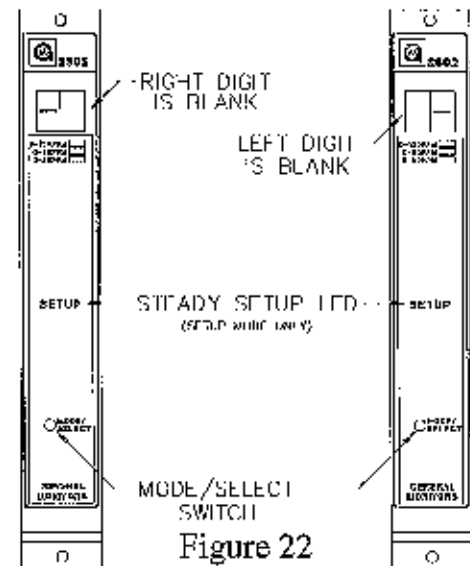

Figure 22
- **This option applies to the Setup Mode only:** If the password option is enabled, the right digit of the display will be blank and a bar (-) will appear in the left digit on the display (figure 22). Press the Mode/Select switch until the correct number is displayed, then wait about five seconds.
The left digit of the display will be blank and a bar (-) will appear in the right digit on the display (figure 22). Press the Mode/Select switch until the correct number is displayed, then wait about five seconds. If the password is correct the user will proceed with the inhibit option. If the password is incorrect the user will not be able to proceed and the unit will return to the normal operating mode. Once in the operating mode the user may attempt to re-enter the Setup Mode. The factory default password is 00.